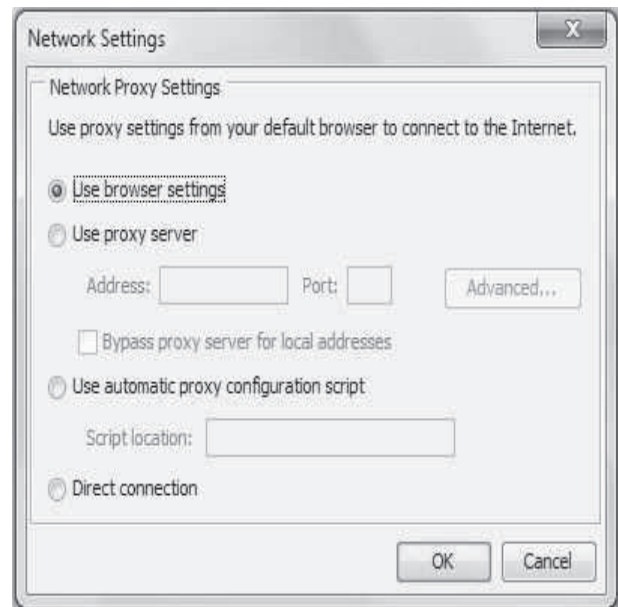

Fig. 55 — Network Settings
- Network settings: In the Java Control Panel, click Network Settings. Select a direct connection to bypass the proxy server or select the automatic configuration script. See Fig 55.